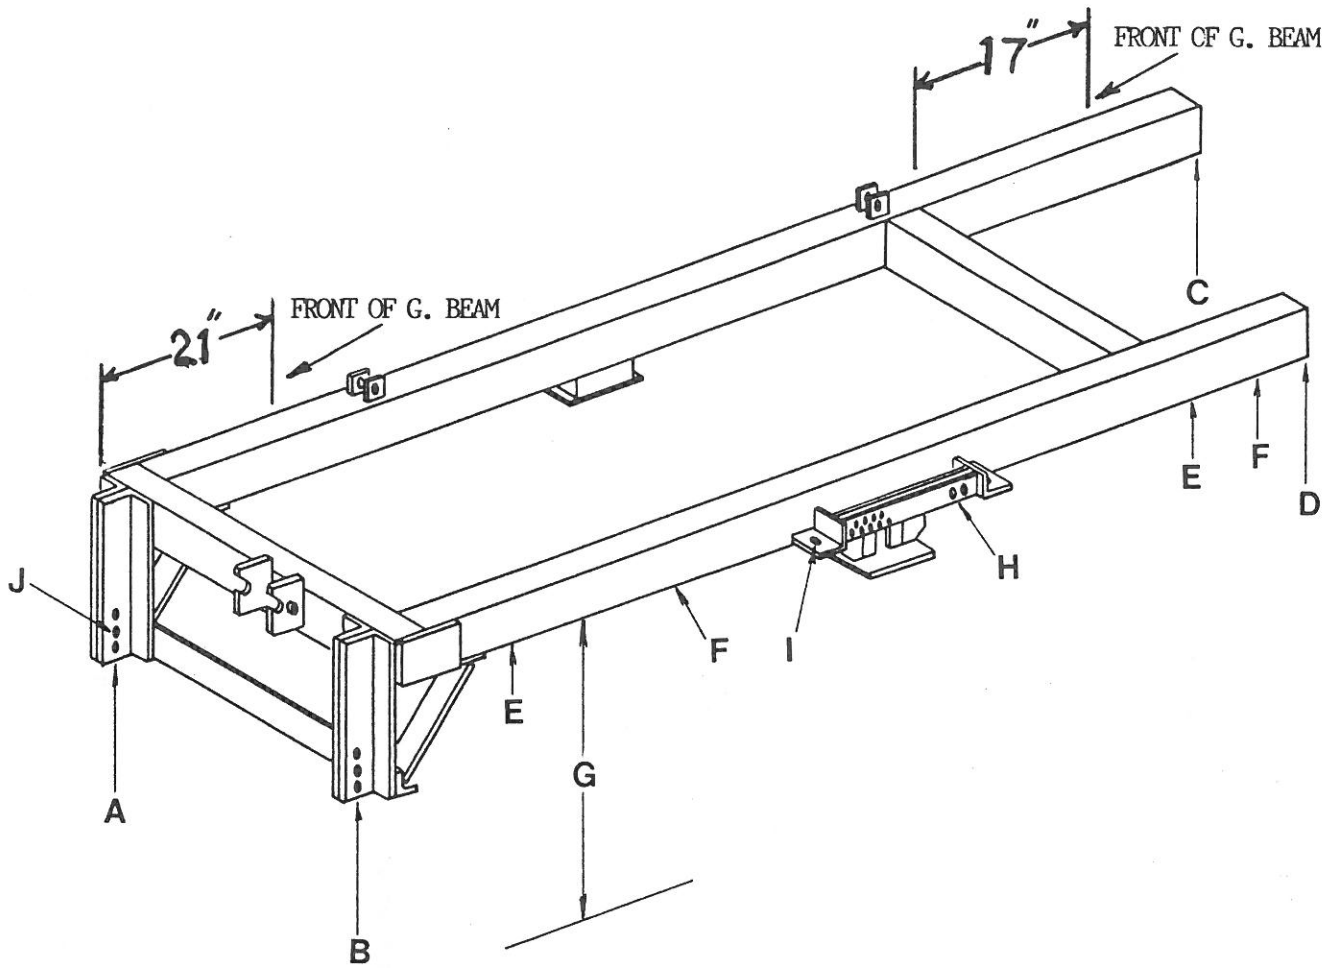

FIG. 2
2. Support the main frame on solid supports at A, B, C, and D, Fig. 2, to a height that will allow the gangs to be moved underneath the gang beams for mounting.
3. Place the gang beams, Ref 32, Fig. 1, underneath the frame between the stop lugs that are welded at the front and rear of the left side member. Locate the right end of the front gang beam approximately 21" behind the front cross member of the main frame and the rear gang beam 17" behind the rear cross member as shown in Fig. 2. This will provide about an 18 gang angle.
1. Refer to Fig. 7 and 8. Position the entire wheel carriage, Fig. 7, under the main frame with the wheel legs extending to the rear and the depth control arms, L & R, Fig. 7, inserted into the depth control quadrants, Ref. H, Fig. 2. Before lifting the wheel carriage up to the frame install the wheel carriage bearing sets, Ref. 29 & 30, Fig. 1, and loosely tie together with very light wire.
1. Select the hole position in the main frame front hitch angle, Ref. J, Fig. 2, that will best suit your tractor and operating adjustment needs.
Block harrow's wheels to prevent rolling in either direction and have everyone clear of the machine. Activate the cylinder and raise the harrow to transport position. The harrow will balance on the wheels and hitch easily. Insert the transport pins in front of the depth control arm in hole H, Fig. 2. Use hole I for storage.